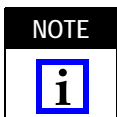

Figure 1
Extraction Tool 90471-1 extracts an individual SL-156 Receptacle Contacts 770476-[ ] from SL-156 Connector Housing 770849-[ ]. See Figure 1 for an SL-156 receptacle contact and connector housing.
### 2. DESCRIPTION (See Figure 1)
1. Position the extraction tool as shown in Figure 1. Insert the tip straight into the connector locking lance slot of the contact to be removed until the tool stop bottoms on the connector housing.